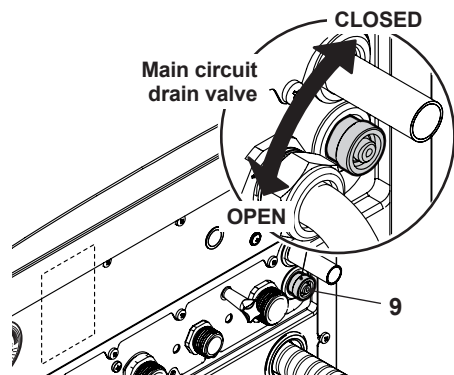

Fig. 9.6
- Loosen the central heating drain cock 9 indicated in Fig. 9.6.